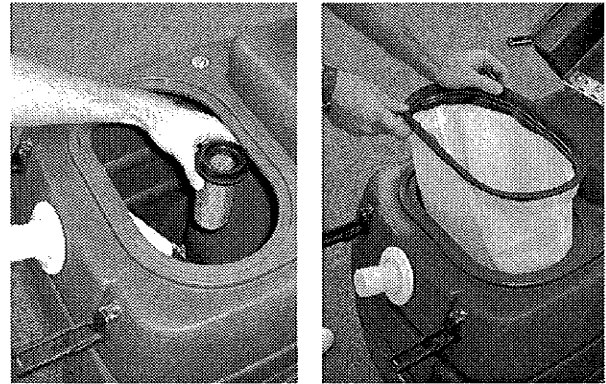

FIG. 1
2. Check that float shutoff screen and filter bag are installed in recovery tank (Figure 1).